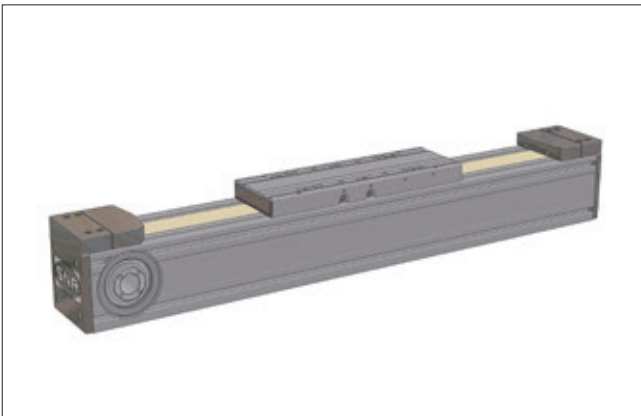

Figure 5.1 ___ AXC with toothed belt drive
- 3 drive versions – toothed belt drive, screw drive or toothed belt / Ω - drive (Figures 5.1 up to 5.3)